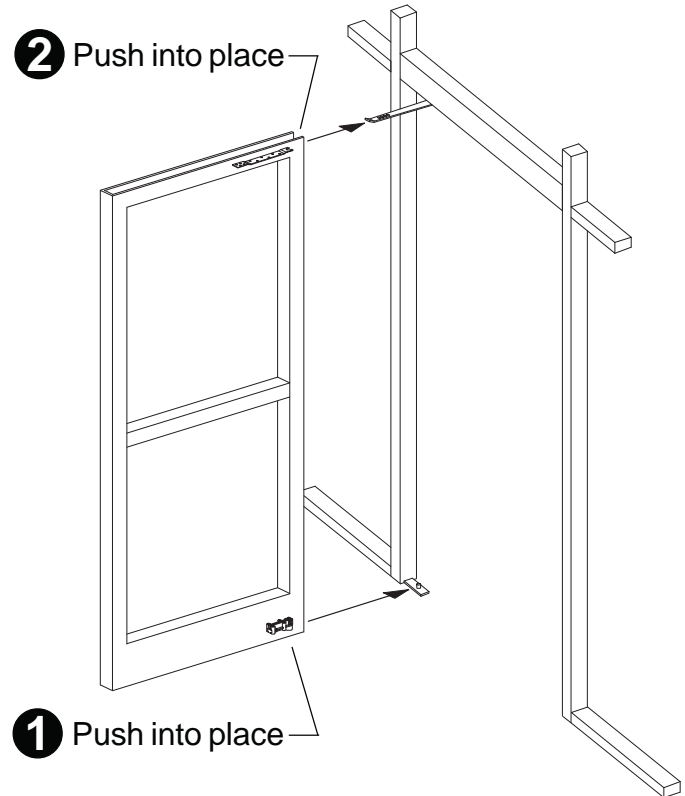

Figure 11-5
- 11.4. Position the door so the arm is in the top channel of the door and gently slide the door up against the lower pivot (Figure 11-5).